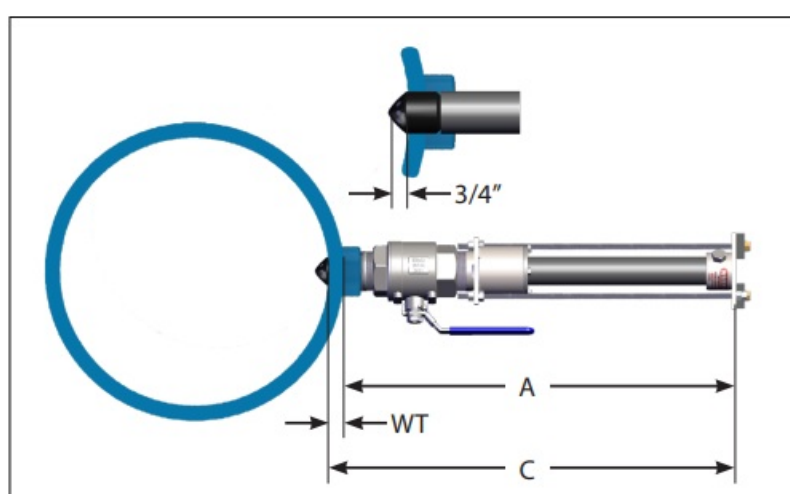

Figure 11. 0.00 Position
- Calculate distance A by subtracting the pipe wall thickness (WT) and 3/4" from length C. See Figure 11 for Length C (Tube Length).